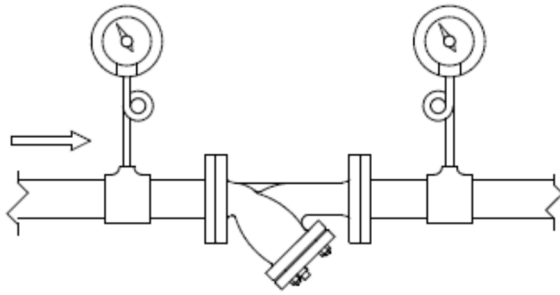

Fig.1
- (1) The amount of clogging matter may be estimated from the differential pressure measured with pressure gauges installed upstream and downstream of the strainer. (See Fig.1)